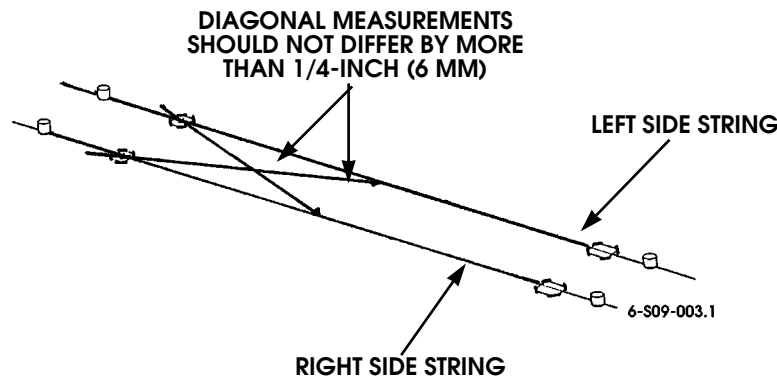

Figure 9-161: Diagonal Skew Measurement Method 1
1. Measure diagonally from one point on right or left frame rail string to a point on opposite frame rail string (Figure 9-161).